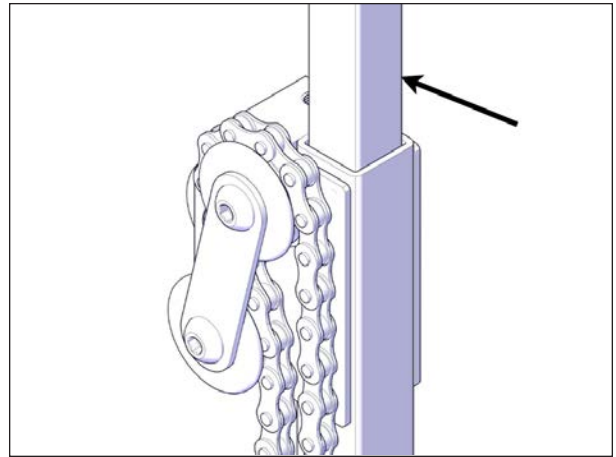

FIGURE 113: SLIDING PARTS TO GREASE
7. Spray grease on all the sliding parts and mechanical components of all jacks, see Figure 113.